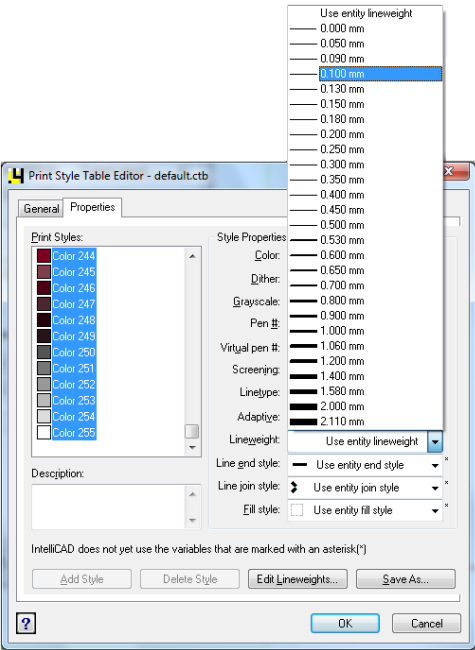

Fig. 335 – marked list of colours and lineweight selectio
- as a result, all positions will be selected at the same time (Fig. 335);